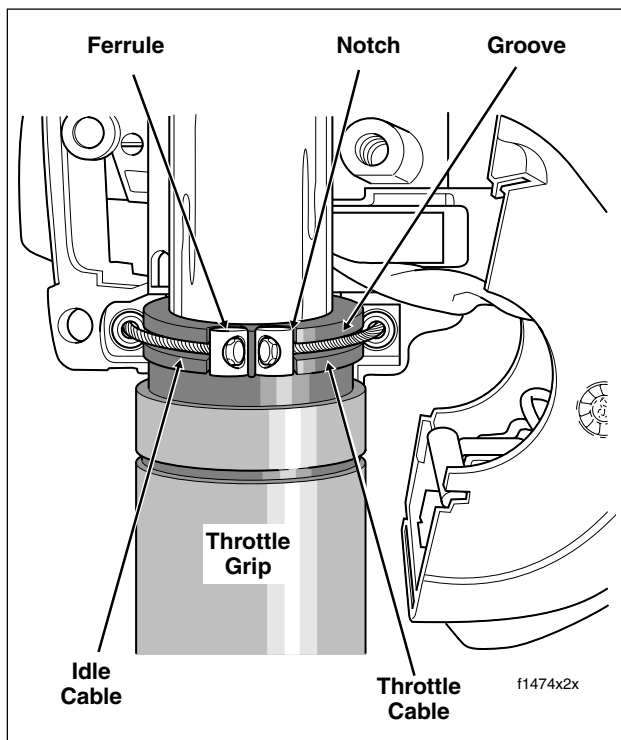

Figure 2-158. Install Throttle/Idle Control Cables on Throttle Control Grip
18. Position the lower switch housing beneath the throttle control grip. Install the brass ferrule onto the throttle cable so that the end fitting seats in the ferrule recess. Be sure that ferrule is oriented so that when installed in notch of throttle control grip, slotted end is on the outboard side. Install ferrule in notch of throttle control grip. Verify that cable is captured in groove molded into the grip. Repeat step to install idle control cable. See Figure 2-158.